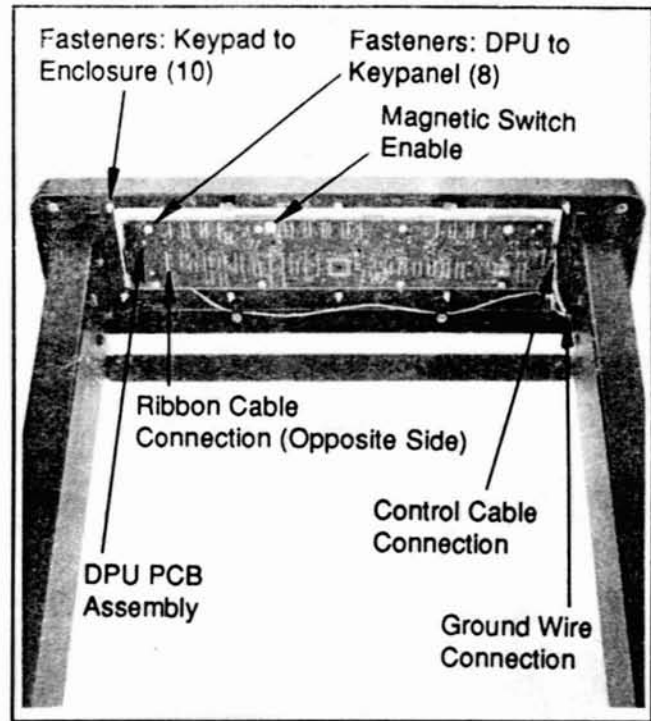

Figure 3-30. Display Processor Unit and Connections
5. Disconnect the controller cable, located on the left side of the DPU. See Figure 3-30.